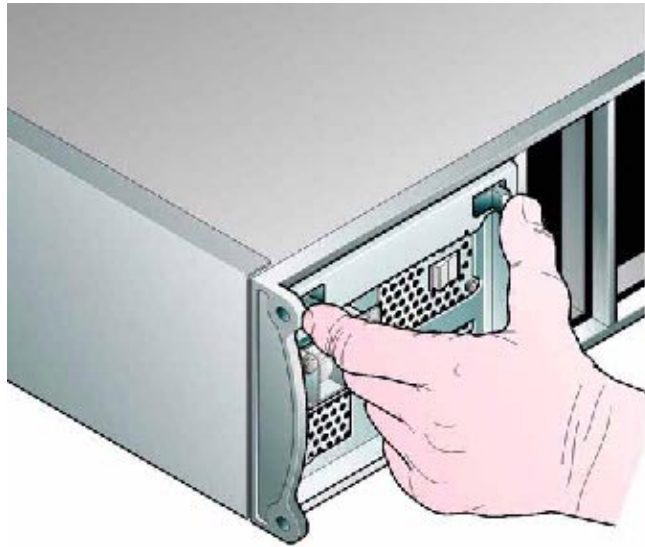

Figure 2-9 Installing a -48V DC Power Supply/Cooling Module (2)
- 3 Cam the module home by manually closing the PSU handle (see Figure 2-8). A click should be heard as the handle latches engage (see Figure 2-9).